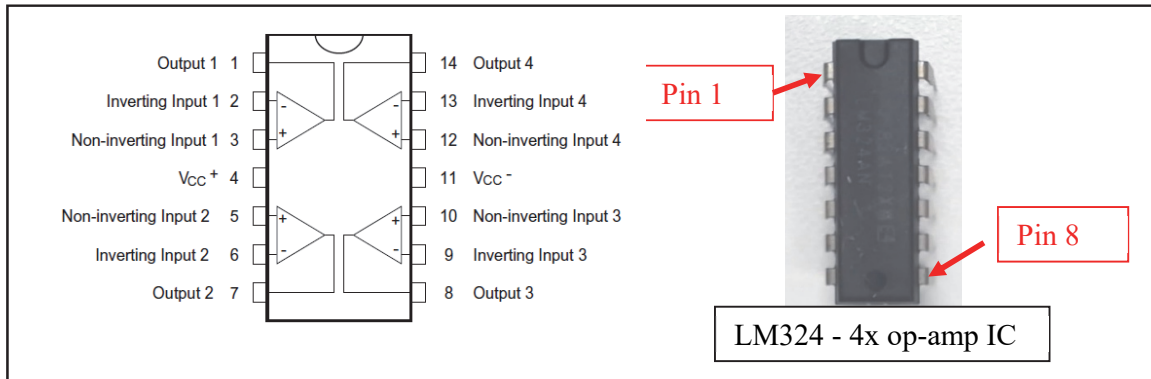
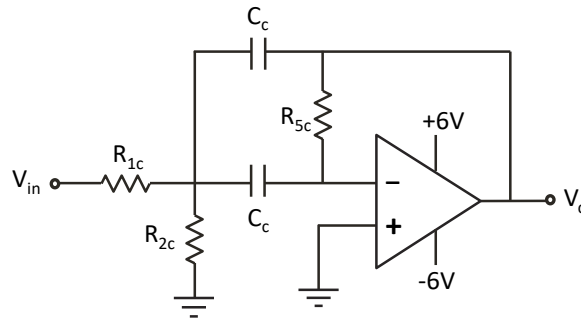
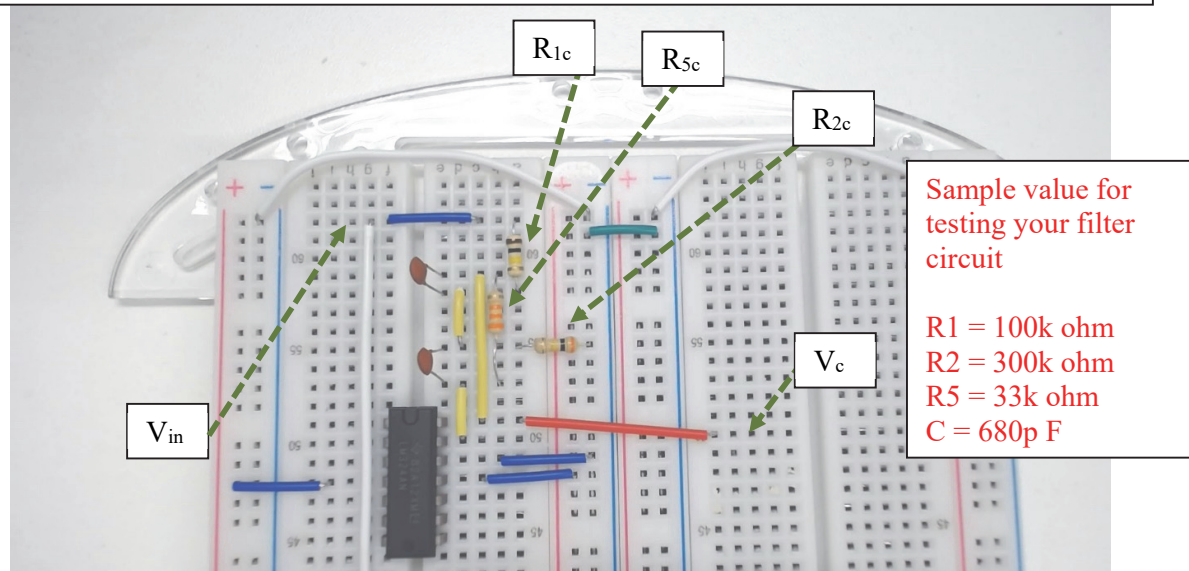

Fig. 13
Fig. 14 (high frequency band-pass filter)
Fig. 15
- 5.1.4 There is a power LED shown in Fig. 14 to indicate the power is ON. Once the board is powered up, you should always check the status of the power LED. It should be ON all the time. If the LED is suddenly OFF after you inserted something or changed wiring, in that case, you have to immediately take off the battery from battery compartment, and you should check your circuit. You could refer to the video (video2-power_LED_suddenly_OFF.mp4)
The LM324 (4 x op amps IC) is shown in Fig. 13. Use the value of the R_{1c} , R_{2c} , R_{5c} , C_c for high frequency band obtained in Lab 5a simulation. Connect the high frequency band-pass filter circuit as shown in Fig. 14, and put all the components on the breadboard as shown in Fig. 15. Don't forget to connect the positive and negative supply. For simplicity, only one opamp is used in each LM324 for each band-pass filter.